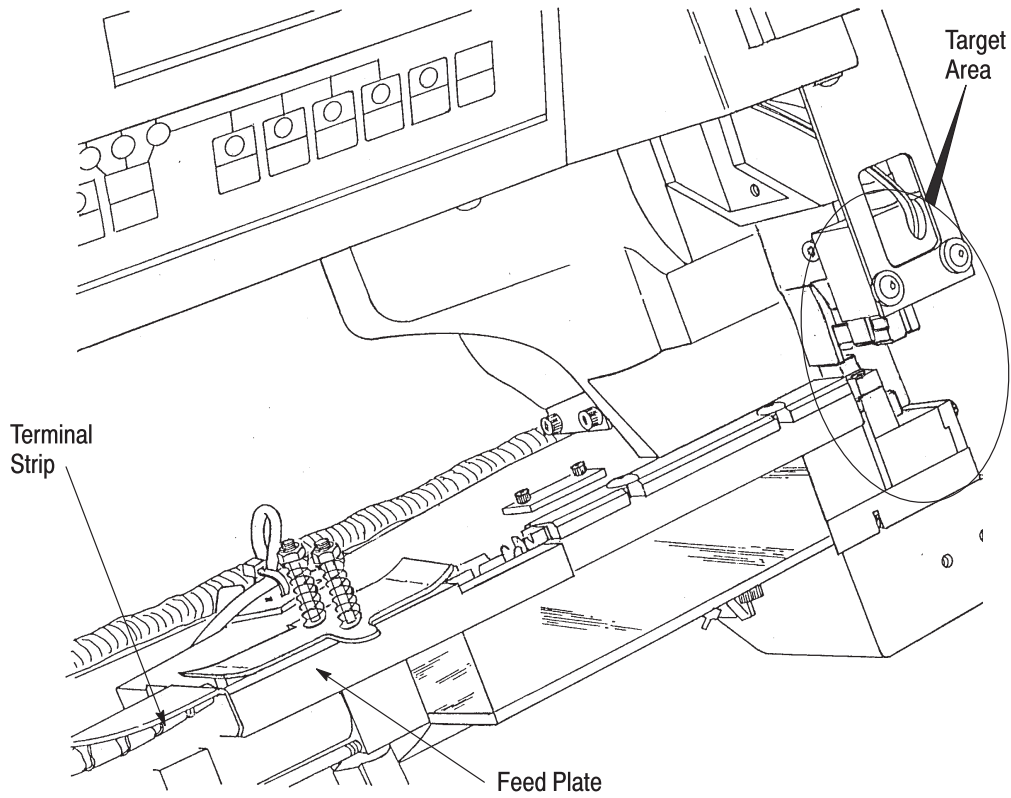

Figure 4
A. Feed Plate Group (See Figures 4 and 5)